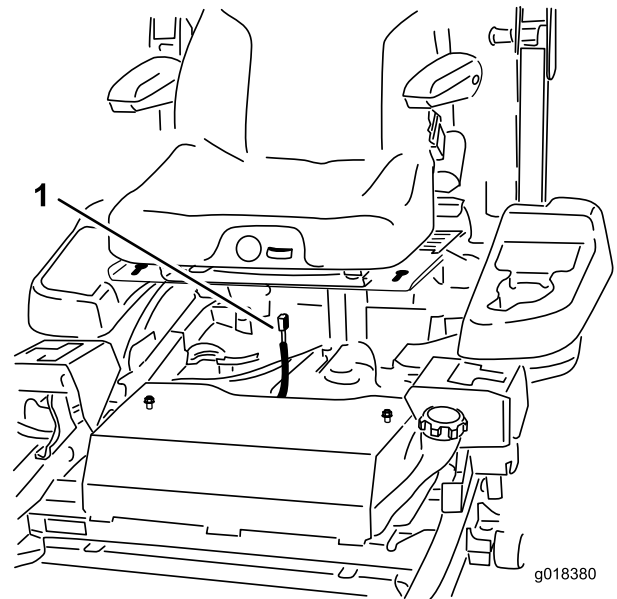

Figure 68
9. Unplug the harness connector from the seat switch located under the seat (Figure 68).